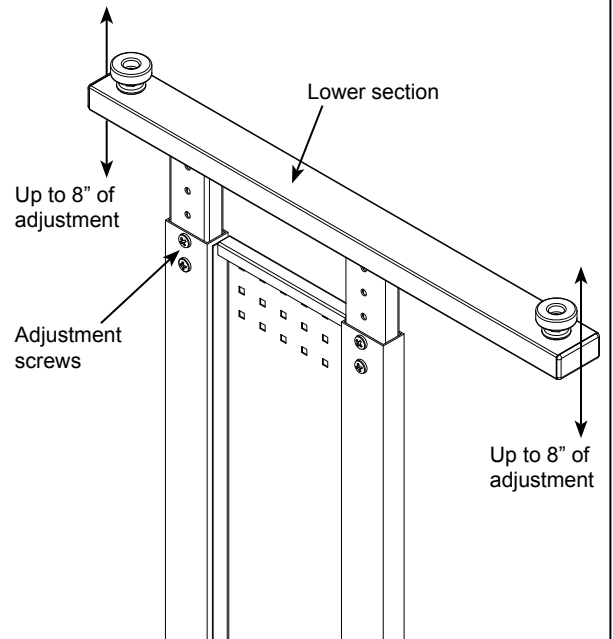

Figure 2D
1. To adjust the legs, remove the (4) pre-installed adjustment screws. (Fully-support the lower section of the leg while removing). **Figure 2D.**
3. Install the (4) previously removed screws in the new holes and tighten securely.